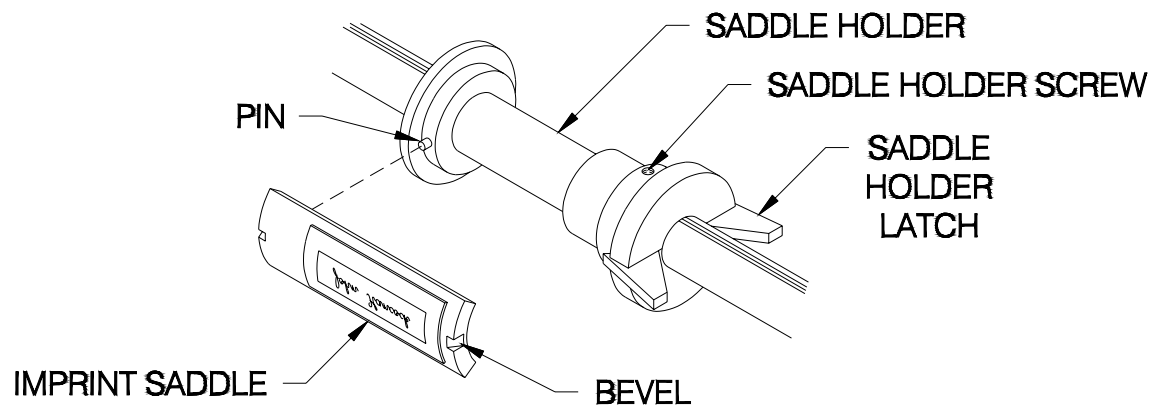

Figure 6.1 -- Loading Imprint Saddles
3. Place the notch in the IMPRINT SADDLE around the PIN on the SADDLE HOLDER. (Refer to **Figure 6.1.**)
2. Turn the EXECUTIVE KEY to the **LOCKED** position and the IMPRINT KEY **ON**. (Refer to **Figure 6.1**.)